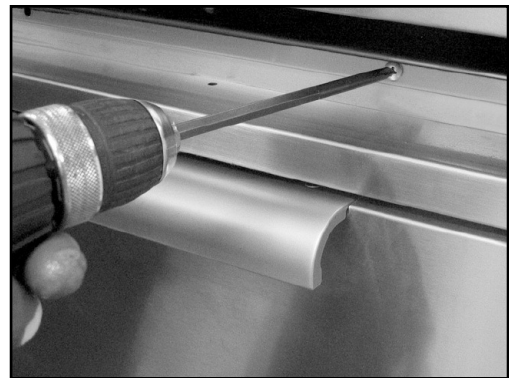

Fig. 48
- E. Install remaining (3) screws (10-24 x 1/2") into the front of head to the cart (Fig. 48).